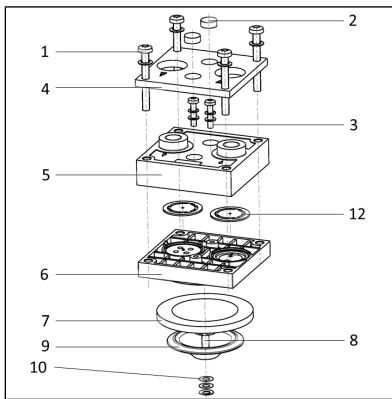

Fig.4 Replacing the structured diaphragm
3. Loosen the four fastening screws (Fig. 4/2) and remove the housing cover (Fig. 4/3).
4. Loosen the four screws (Fig. 4/1) and remove the pressure plate (Fig. 4/4).
5. Remove the screw covers (Fig. 4/2); loosen the two screws (Fig. 4/3) and remove the head plate (Fig. 4/5) and the intermediate plate (Fig. 4/6).